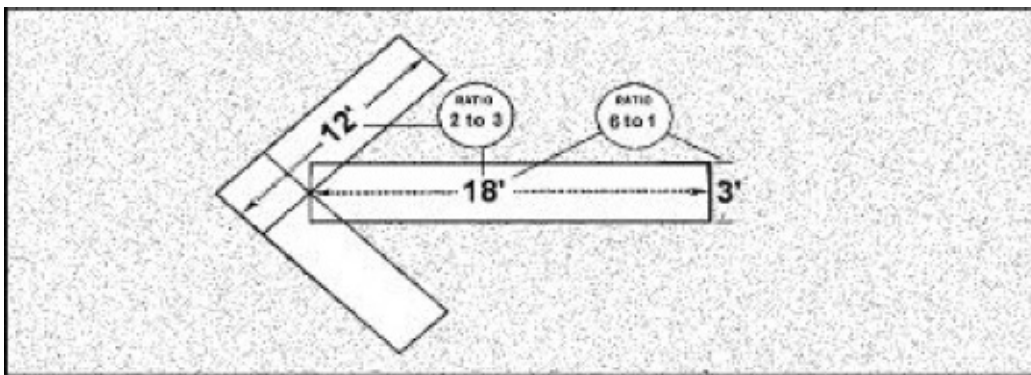

Figure 3-3. Size and ratio
(1) Materials:
(2) Location.
(3) Size (large as possible) and ratio (**Figure 3-3**).
(4) Shape (maintain straight lines and sharp corners).
(5) Contrast (use color and shadows).